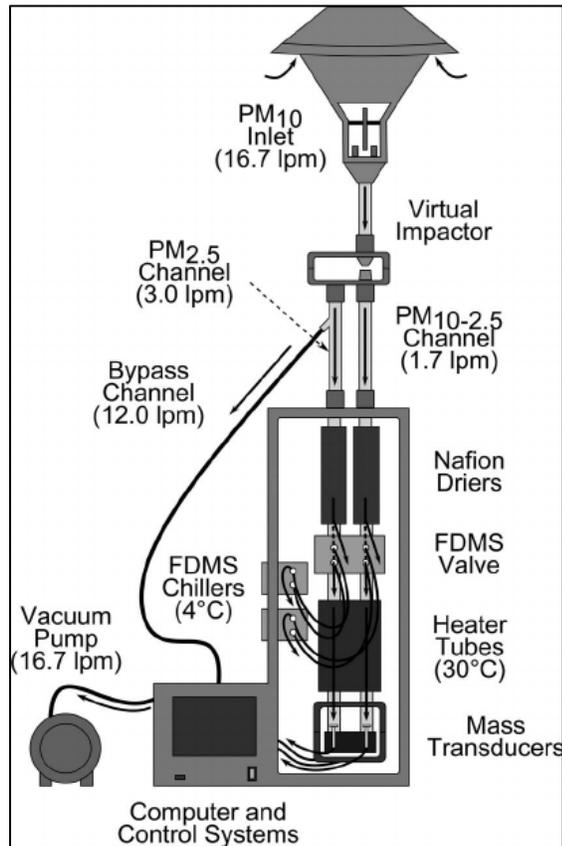

Figure AR-12. TEOM-1405D Schematic
33.1405-D Dichotomous Ambient flow audit (see Figure AR-12 for identification of sample lines).